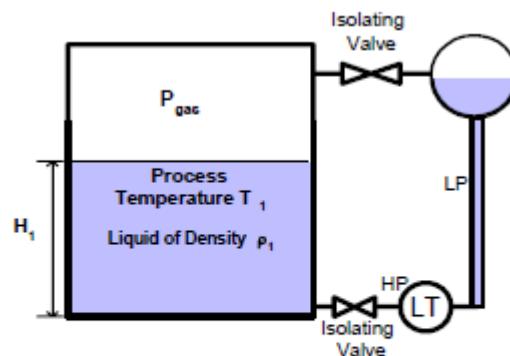

Figure 10
The above scenario of figure (9) is a common occurrence in plant operations. Consider a level transmitter calibrated to read correctly at 75°C. If the process temperature is increased to 90°C as in figure 9 (c), the actual level will be higher than indicated. The temperature error can also occur in wet-leg systems (figure 10).